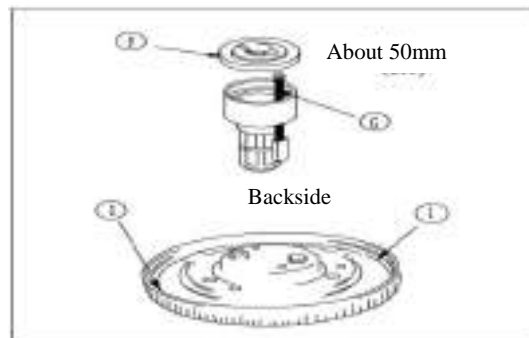

Figure 4-8 Refuel
b). As shown in Figure 4-8, open the cap of the fuel injection port, the level gauge (G) rises with the oil level increasing. Check whether the fuel tank is full by checking the level gauge (G). If the tank is not full,